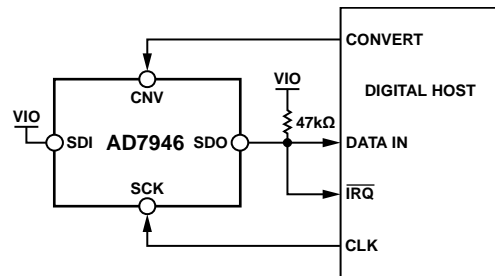
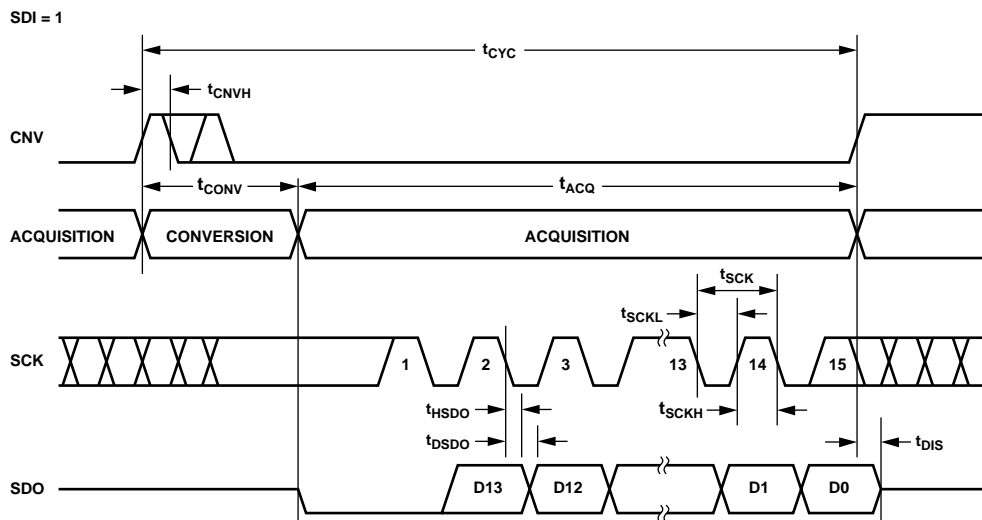
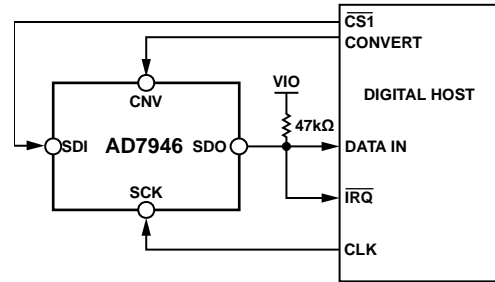
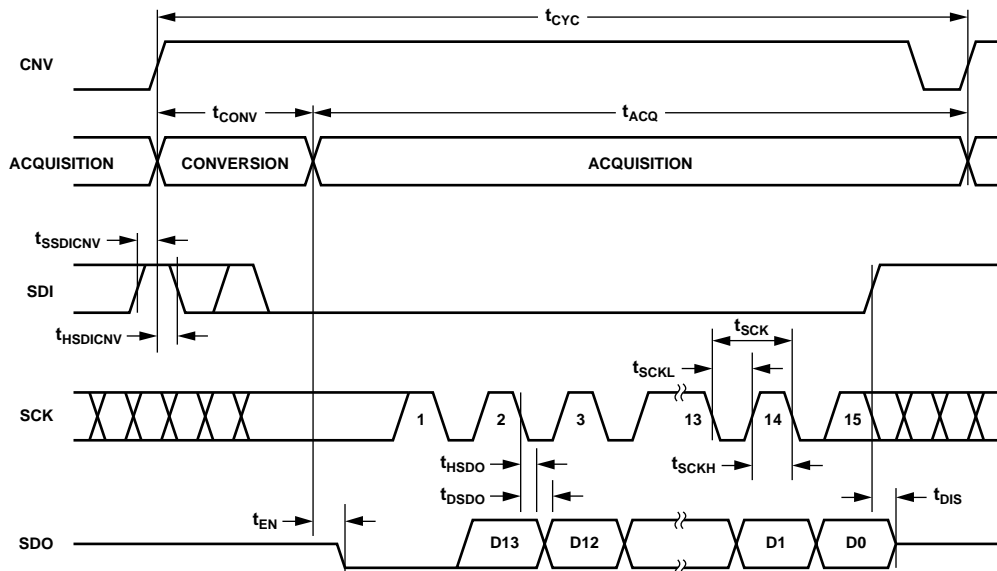

Figure 35. CS Mode 3-Wire with BUSY Indicator Connection Diagram (SDI High)
Figure 36. CS Mode 3-Wire with BUSY Indicator Serial Interface Timing (SDI High)
Figure 39. CS Mode 4-Wire with BUSY Indicator Connection Diagram
Figure 40. CS Mode 4-Wire with BUSY Indicator Serial Interface Timing
- In $\overline{\text{CS}}$ mode, if CNV or SDI is low when the ADC conversion ends (see Figure 36 and Figure 40).
The connection diagram is shown in Figure 35, and the corresponding timing is given in Figure 36.
The connection diagram is shown in Figure 39, and the corresponding timing is given in Figure 40.